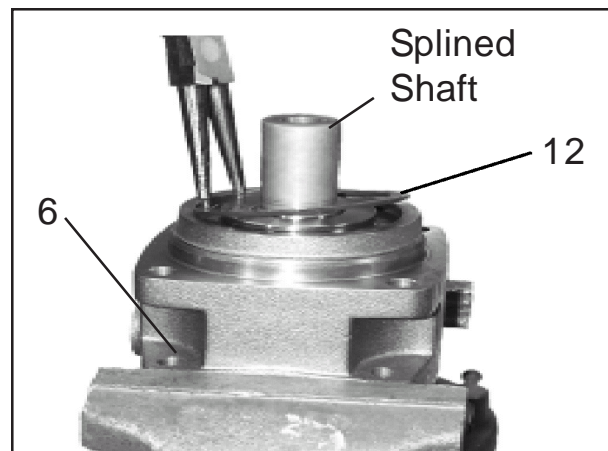
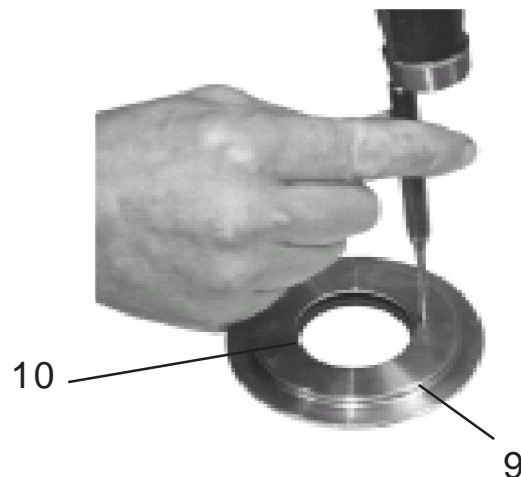
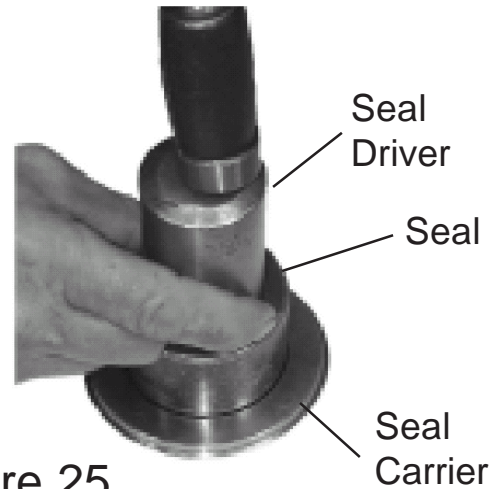

Figure 8
Figure 24
Figure 25
7. Remove Retaining Snap Ring. Remove the Bearing Housing Assembly from vise and turn it over so the shaft end is pointing upward and re-clamp it into vise as shown in figure 8. Using internal Snap Ring pliers to remove the snap ring that retains the seal carrier (item 9). Note: Smooth Shaft shown, actual shaft is splined in this motor.
**8.** Install Seal into Seal Carrier. Drive the old Seal out of Seal Carrier (See Figure 24) Install new seal (item 10) using a seal driver. Coat the ID of seal with a light coat of oil. (See Figure 25)
**20** If only replacing Seal as a repair See Figure 8 & 9 in disassembly section and Figures 24, 25, 26 & 27 in the assembly section.